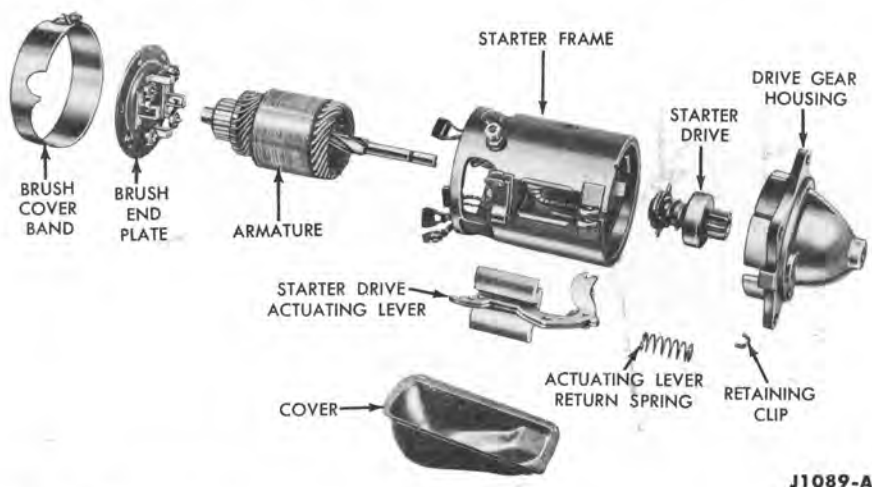

FIG. 10—Starter Disassembled
Use the following procedure when it becomes necessary to completely overhaul the starter. Fig. 10 illustrates the starter completely disassembled.
1. Loosen the brush cover band retaining screw and remove the brush cover band and the starter drive actuating lever cover (Fig. 10).